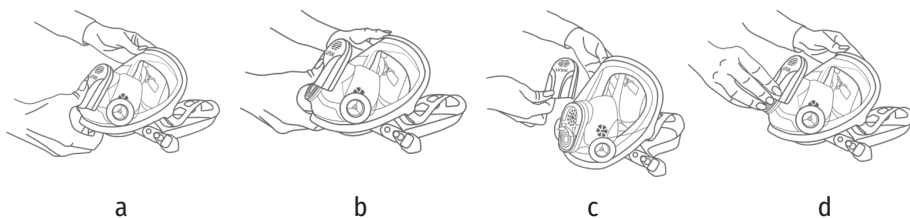

Figure 2 – Protective screen: putting on (a, b, c) and putting off (d)
- the integrity of exhalation valve saddle: it is necessary to remove the protective screen (figures 2 a, b, c): by pressing with your thumb on the protrusion of the protective screen move up the protective screen in order to disconnect it from the hook of the valve box fixator.
After checking the exhalation valve saddle and exhalation valve petal, place the protective screen on top of the valve box of the visor and with the palm of your hand put it down until it clicks into place (click) (Figure 2 d).
Remove the protective screen (figure 2 (a, b, c)). Inspect the exhalation valve petal; in case of damage and deformation, take the exhalation valve petal and remove it from the exhalation valve saddle. Insert a new exhalation valve petal into the central hole in the exhalation valve saddle and pull the exhalation valve petal for the rod from the opposite side until fixation. Install the protective screen (figure 2 g).